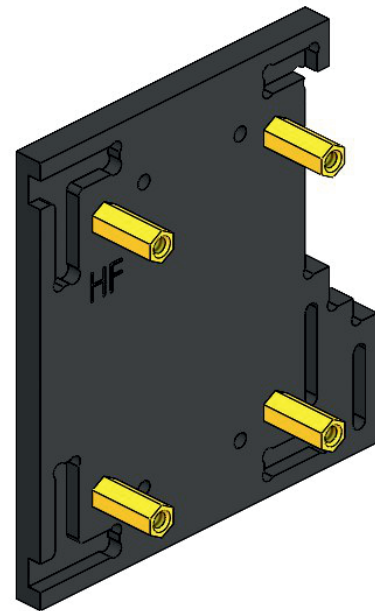

Fig. 69: Securing to the side wall
5) Attach M3x10 sunk screws (4 pcs.) and female-threaded PCHSS M3x12 studs (4 pcs.) to the side wall (marked “HF”) (Fig. 69):